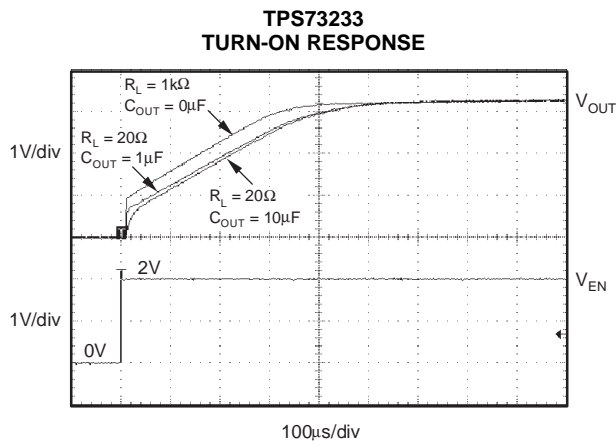

Figure 23.
The enable pin (EN) is active high and is compatible with standard TTL-CMOS levels. A V_{EN} below 0.5V (max) turns the regulator off and drops the GND pin current to approximately 10nA. When EN is used to shutdown the regulator, all charge is removed from the pass transistor gate, and the output ramps back up to a regulated V_{OUT} (see Figure 23).